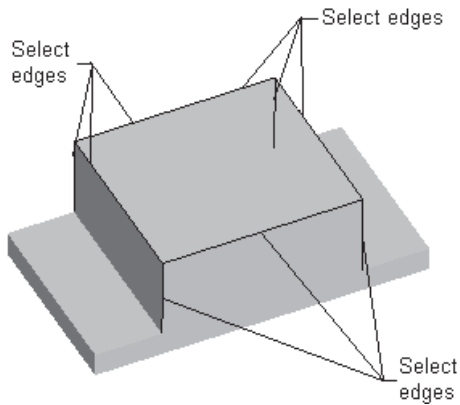

Figure 6-35 Edges to be selected to round
4. Select the edges shown in Figure 6-35 to round.